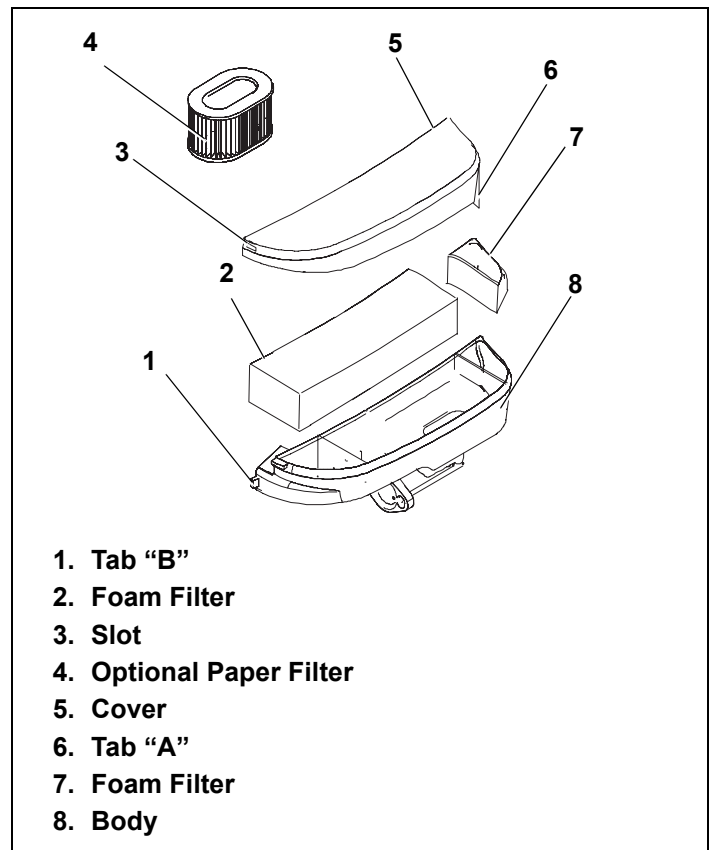

Figure 49. Air Cleaner Type “B” Assembly
1. Remove cover by pulling tab “A” away from body while lifting cover upward. See Figure 49.